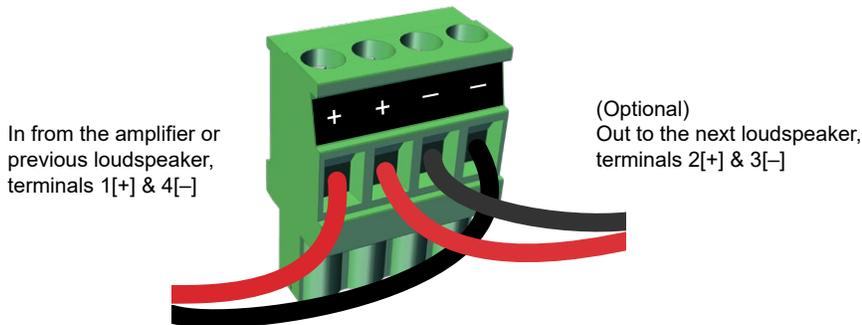

Figure 1. Wire euroblock connector
6. Thread the cable or wires through the clamp and wire the euroblock connector as shown in Figures 1 and 2. Loudspeakers may be daisy-chained by using the second set of terminals.